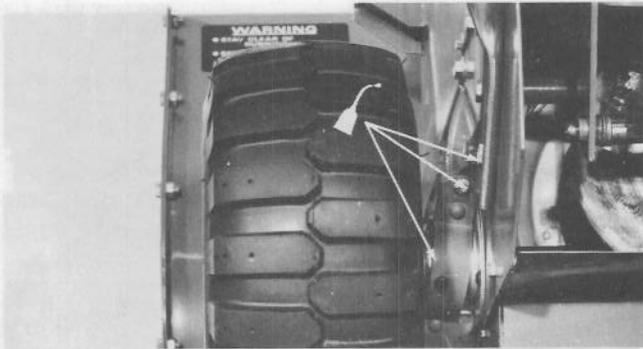

Figure 32
2. Lubricate pivot points of both wheel clutches with two drops of oil (Fig. 32). Wipe up any excess oil.